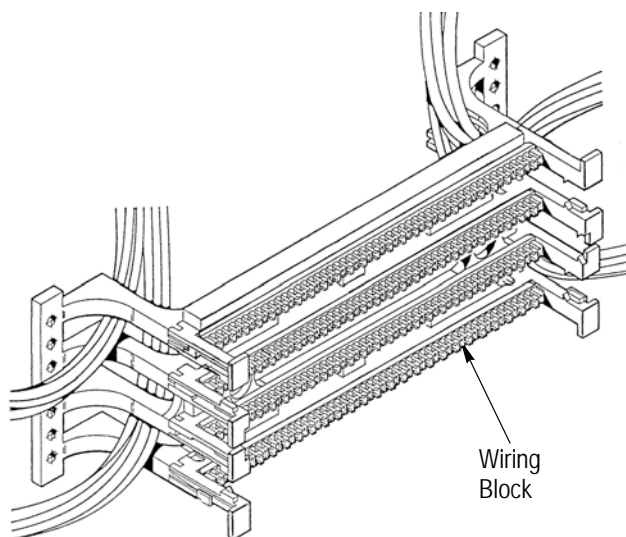

Figure 4
3. Select the 2 cable bundles that will be terminated in each half of this first wiring block. Position bundles under block at right and left ends and feed individual cable ends out between mounting legs below appropriate wiring channel. The cables on the right end will be terminated in the right half of the wiring block and the cables on the left end will be terminated in the left half. See Figure 4.